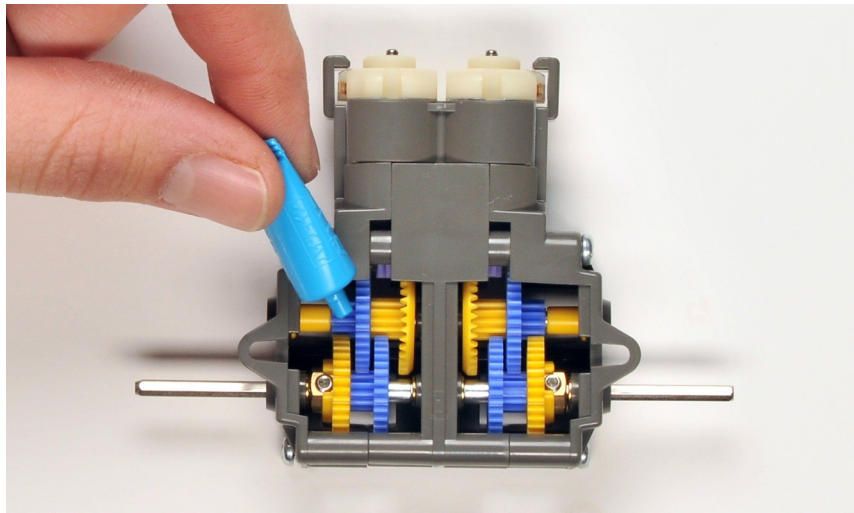

Figure 1.33
27. Lastly, apply grease to all of the gears, as shown in figure 1.33